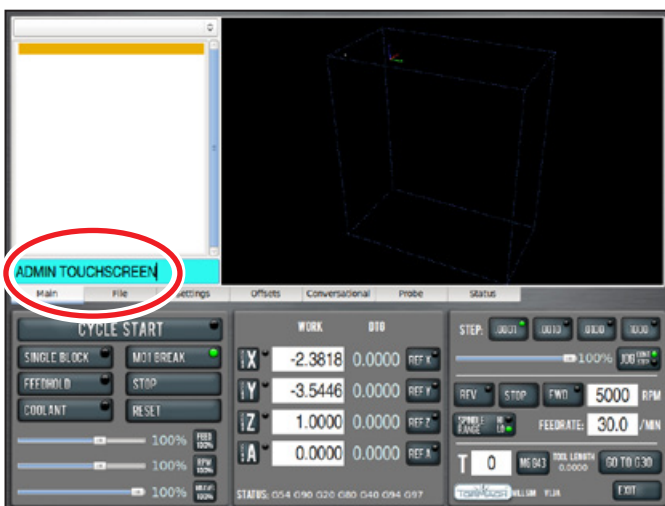

Figure 5
1. In the PathPilot interface, click the *Main* tab (see **Figure 5**).
2. Type *ADMIN TOUCHSCREEN* in the MDI field and click Enter on keyboard (see **Figure 5**).